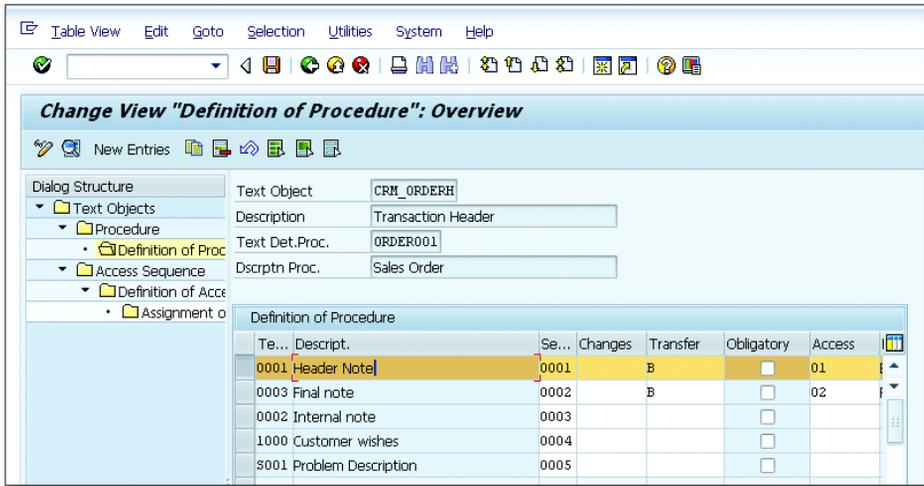

Figure 4.60 Assigning the Text IDs to the Text Determination Procedure
8. Assign the text IDs to the text determination procedure, as shown in Figure 4.60.